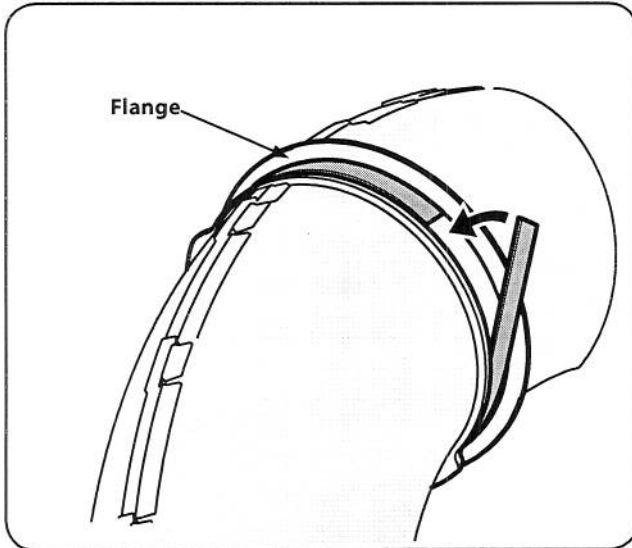

Figure 26
16. Peel the backing off of the self-adhesive foam strip (721-04388) that has been included with your grass collector. Apply it to the upper chute, flush against the flange as shown in Fig. 26.